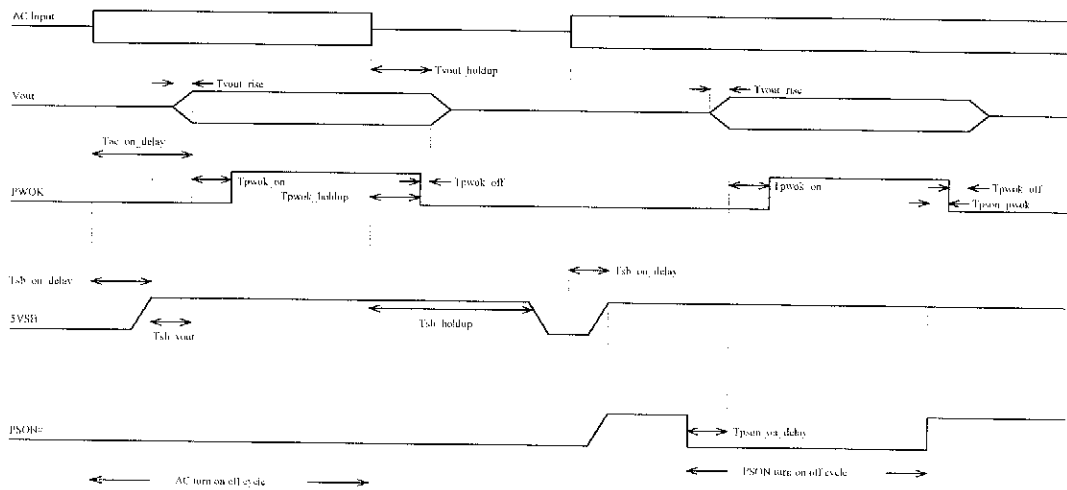

Fig. 1
5.1 Power on (sec fig.1)
5.3 Power off sequence (see fig. 1)
6.1 Power good signal (see fig. 1)